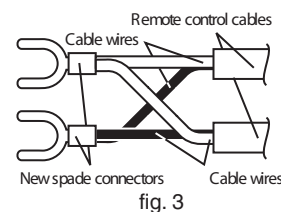

fig. 3
c) Vertical Flueing with Roof Terminal (Fig.3)
3. Cut the spade connectors from 2 of the controller cables to be connected to the appliance (4 spade connectors should be cut off) and discard. Connect the wires from these two cables and terminate into two new spade connectors as shown in fig.3. Spade connectors are available from your local electrical component retailer.